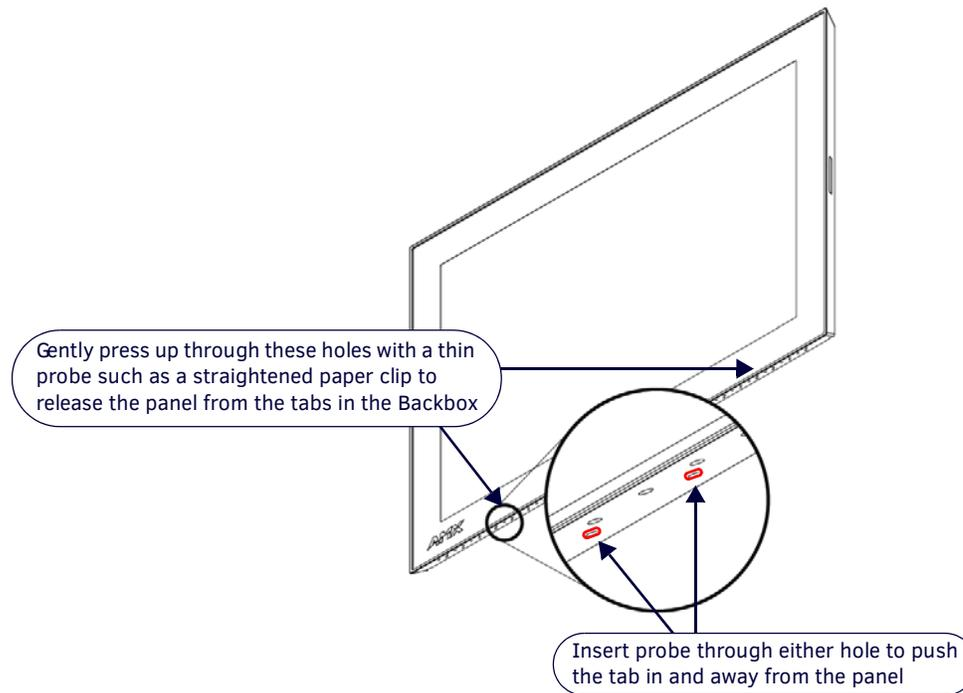

FIG. 33 MSD-1001-L/2 BACKBOX ASSEMBLY
1. With a straightened paper-clip, carefully press straight into the access holes indicated in FIG. 33, to disconnect the two bottom latches.